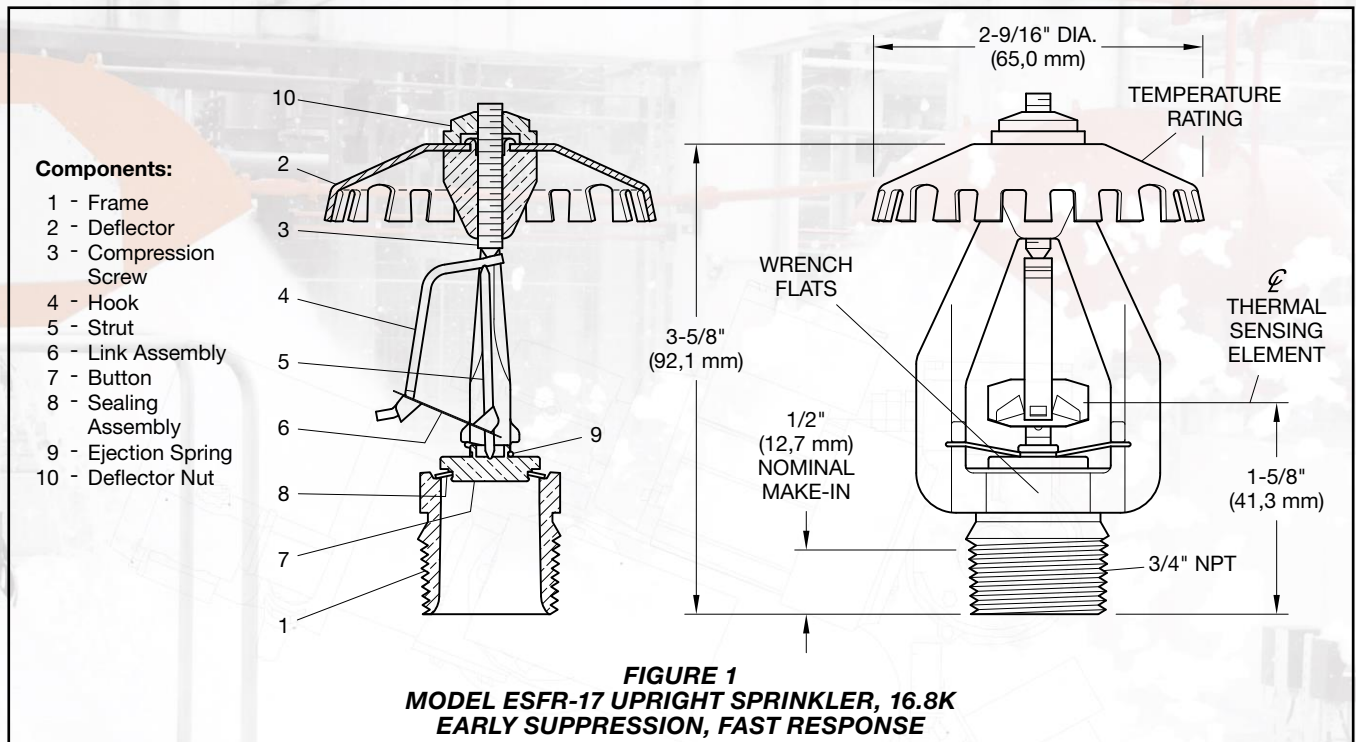
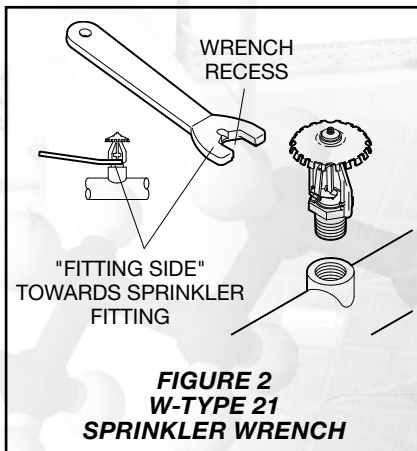

FIGURE 1
FIGURE 2
The TYCO Model ESFR-17 Upright-Sprinklers are Early Suppression, Fast Response (ESFR) sprinklers with a nominal K-factor of 16.8. The sprinkler assembly is shown in Figure 1. They are suppression mode sprinklers that are especially advantageous as a means of eliminating in-rack sprinklers when protecting high-piled storage.
Note: Install the Model ESFR-17 Upright Sprinkler in the Upright position as shown in Figure 2.
Step 2. Wrench-tighten the Model ESFR-17 Upright Sprinkler using only the W-Type 21 Sprinkler Wrench as shown in Figure 2, and by fully engaging (seating) the wrench on the sprinkler wrench flats as shown in Figure 1.
Step 3. After installation, inspect the Link Assembly of each Model ESFR-17 Sprinkler for damage. In particular, verify that the Link Assembly and Hook are positioned as shown in Figure 1, and that the Link Assembly is not bent, creased, or forced out of normal position in any way. Replace damaged sprinklers.